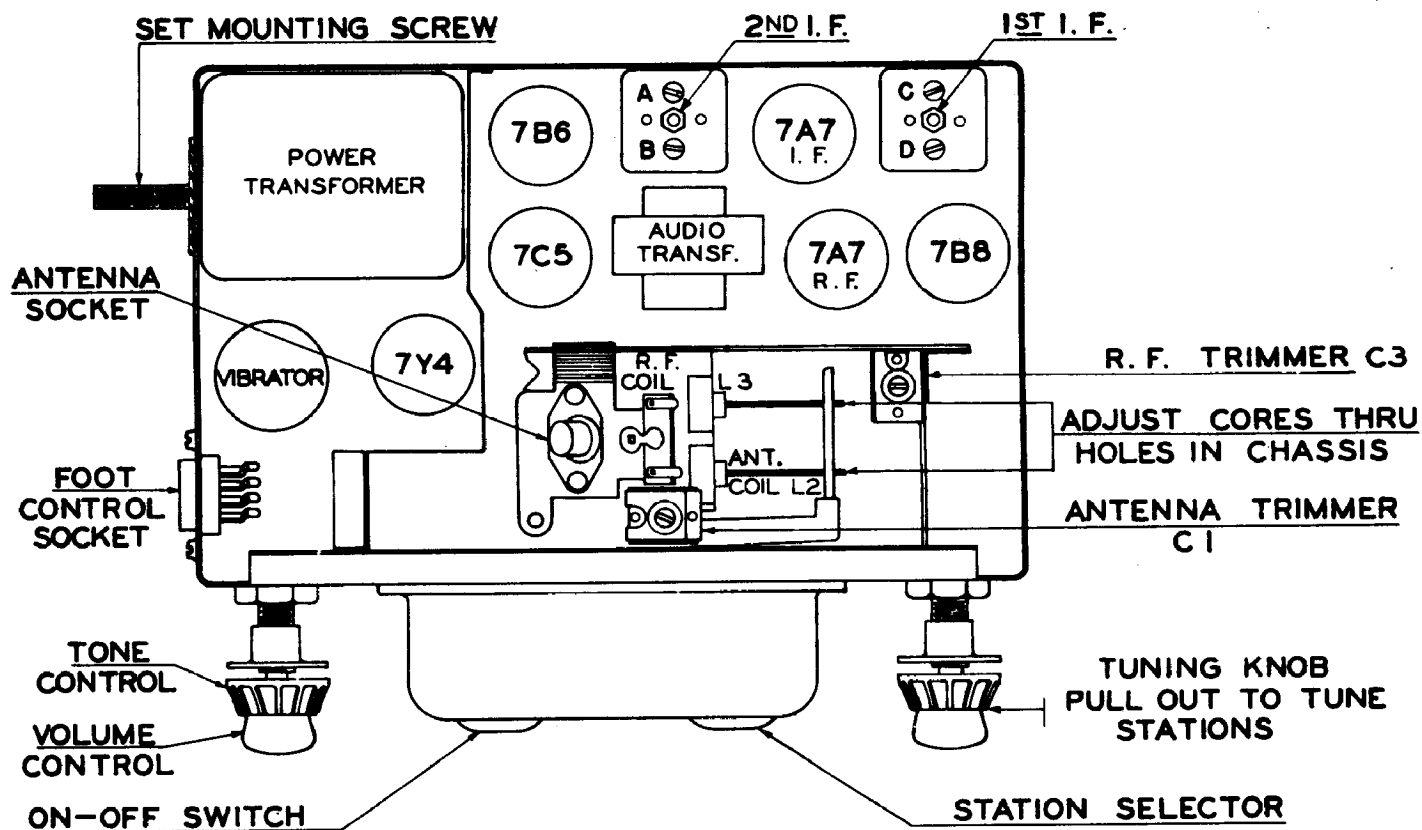
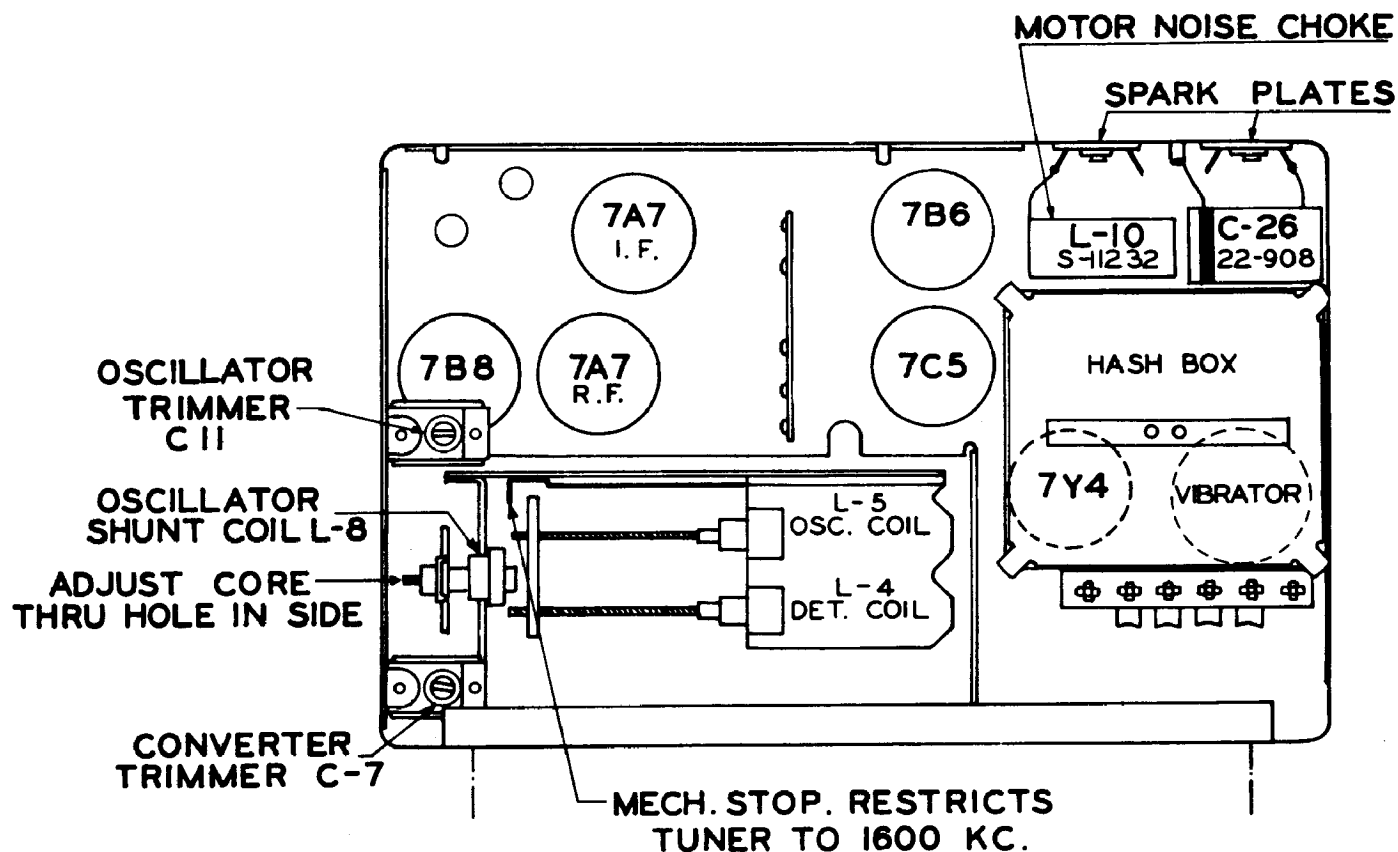

Fig. 10. Top View of Chassis
Fig. 11. Bottom View of Chassis
4. Adjust I.F. trimmers A, B, C and D (Fig. 10), in the order named for maximum output. Repeat the operation to assure accurate alignment.
4. Adjust oscillator trimmer C-11 (Fig. 11) for maximum response.
7. Adjust converter trimmer C-7 (Fig. 11) and R.F. trimmer C-3 (Fig. 10) for maximum response.
6. Adjust oscillator trimmer C-11 (Fig. 11) at 1700 Kc.
7. Adjust converter trimmer C-7, R.F. trimmer C-3, and antenna trimmer C-1 (Fig. 10 and 11) for maximum output reading.
10. Adjust oscillator core (Fig. 10) to scale at 1200 Kc.
11. Adjust the antenna core, R.F. core, and converter core (Fig. 10 and 11), for maximum output reading.
13. "Rock in" Shunt oscillator coil (Fig. 10) for maximum output reading. (This should only be done as a last resort.) This is the same as rocking in the padder condenser on a ganged condenser receiver.